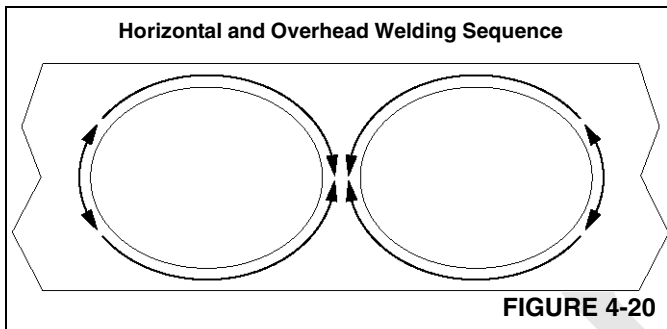

FIGURE 4-20
- a. Use the following sequence for horizontal and overhead welding. The weld pass should start at the heel of the lacing and end on the toe (Figure 4-20). Pass placement will differ from the horizontal and the overhead position.